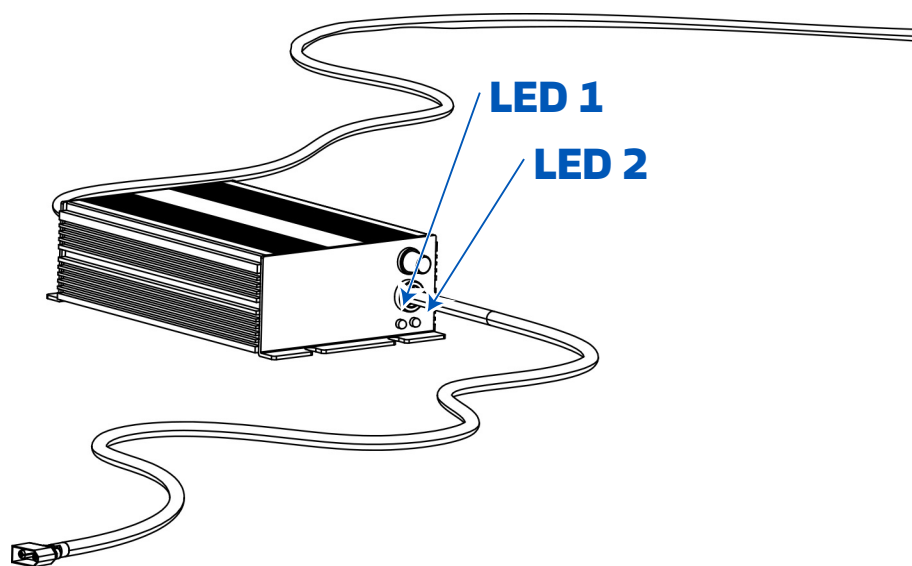

Fig. 4
1. You must plug the charger cable into the household plug (Fig. 3a). At this point, LED 1 on the charger will be red and LED 2 will be green (Fig. 4).